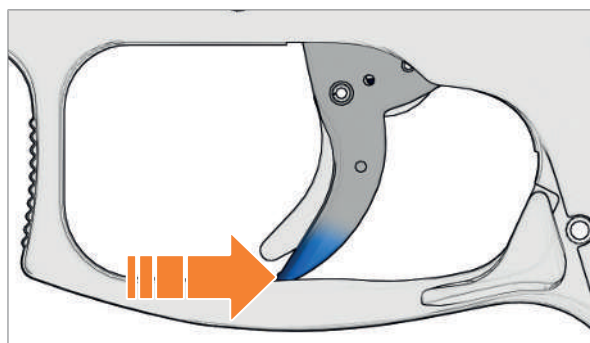

Fig. 21: Push trigger towards the rear
1. Push trigger towards the rear, but do not actuate the trigger safety when doing so (Fig. 21).